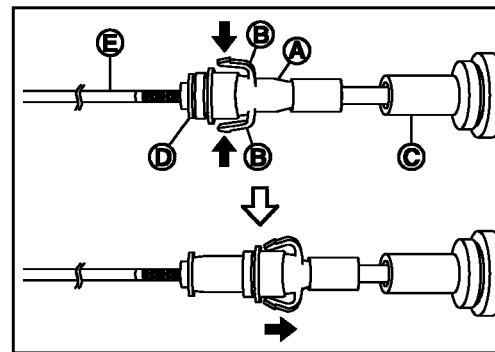
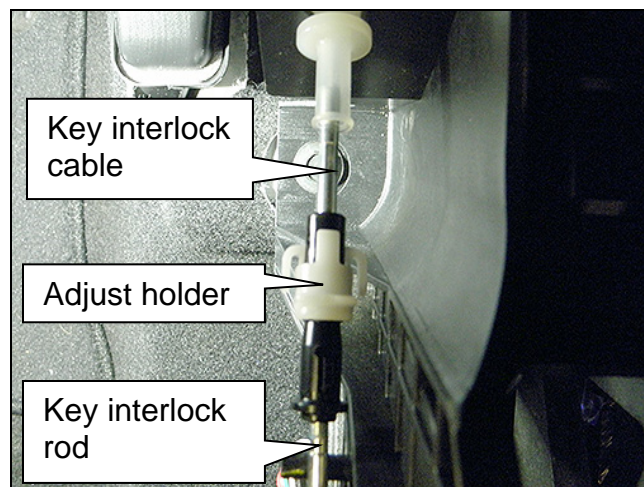

Figure 3
Figure 4
2. Unlock key interlock cable adjuster (Figure 3 and Figure 4):
- a. Press the pawls (B) of the key interlock cable slider (A),
- b. while sliding it in the direction of the casing cap (C),
- c. and then separate the adjust holder (D) and slider.
3. Adjust key interlock cable (Figure 4):